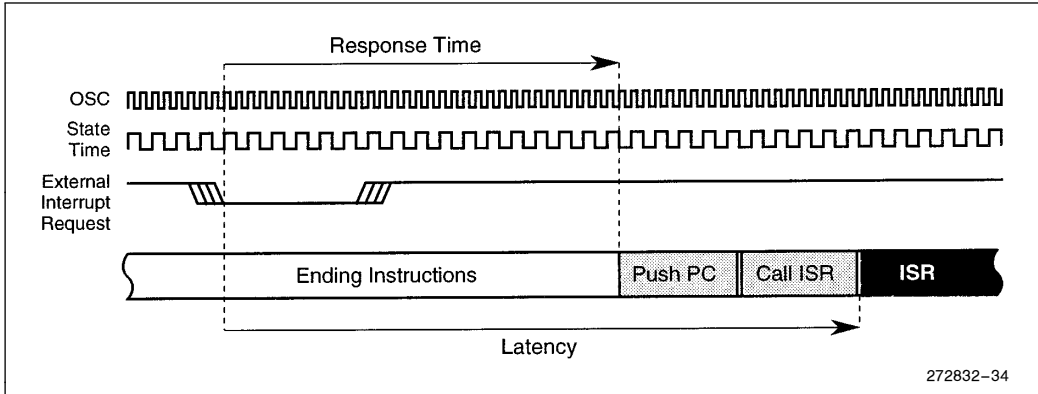

Figure 34. The Interrupt Process
Interrupt processing is a dynamic operation that begins when a source requests an interrupt and lasts until the execution of the first instruction in the interrupt service routine (see Figure 34). *Response time* is the amount of time between the interrupt request and the resulting break in the current instruction stream. *Latency* is the amount of time between the interrupt request and the execution of the first instruction in the interrupt service routine. These periods are dynamic due to the presence of both fixed-time sequences and several variable conditions. These conditions contribute to total elapsed time.
All interrupts are sampled or polled every four state times (see Figure 34). Two of eight interrupts are latched and polled per state time within any given four-state time window. One additional state time is required for a context switch request. For code branches to jump locations in the current 64-Kbyte memory region (compatible with MCS 51 microcontrollers), the context switch time is 11 states. Therefore, the minimum fixed poll and request time is 16 states (4 poll states + 1 request state + 11 states for context switch = 16 state times).
Response time is defined as the start of a dynamic time period when a source requests an interrupt and lasts until a break in the current instruction execution stream occurs (see Figure 34). Response time (and therefore latency) is affected by two primary factors: the incidence of the request relative to the four-state-time sample window and the completion time of instructions in the response period (i.e., shorter instructions complete earlier than longer instructions).
When an interrupt vector cycle is initiated, the CPU breaks the instruction stream sequence, resolves all instruction pipeline decisions, and pushes multiple program counter (PC) bytes onto the stack. The CPU then reloads the PC with a start address for the appropriate ISR. The complete sample, poll, request and context switch vector sequence is illustrated in the interrupt latency timing diagram (see Figure 34).